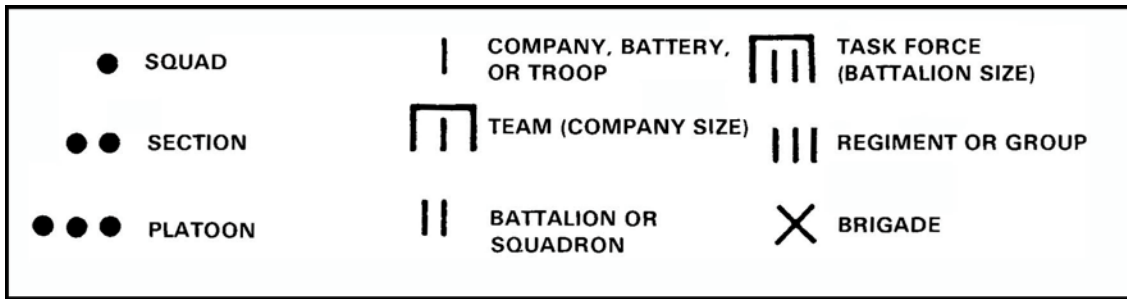

Figure 4. Unit-size symbols.
c. Unit size symbols (Figure 4).